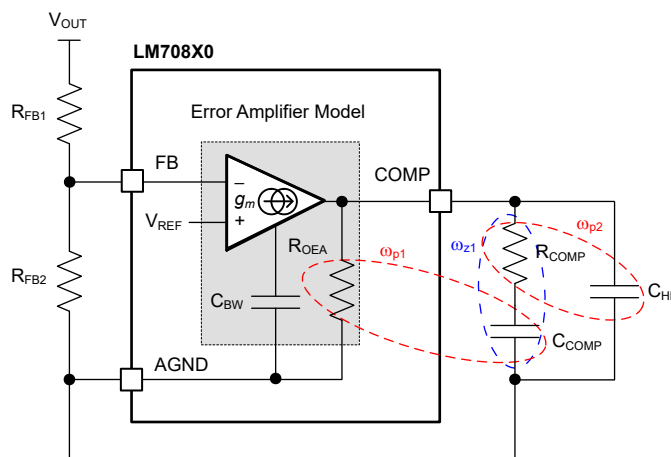

Figure 7-3. Error Amplifier and Compensation Network
A Type-II compensator using a transconductance error amplifier (EA) is shown in Figure 7-3. The dominant pole of the EA open-loop gain is set by the EA output resistance, R_{OEA} , and effective bandwidth-limiting capacitance, C_{BW} as shown by Equation 23.
The EA compensation components create a pole close to the origin, a zero, and a high-frequency pole. Typically, $R_{COMP} \ll R_{OEA}$ and $C_{COMP} \gg C_{BW}$ and C_{HF} , so the approximations are valid. Figure 7-3 circles the poles in red and the zero in blue.